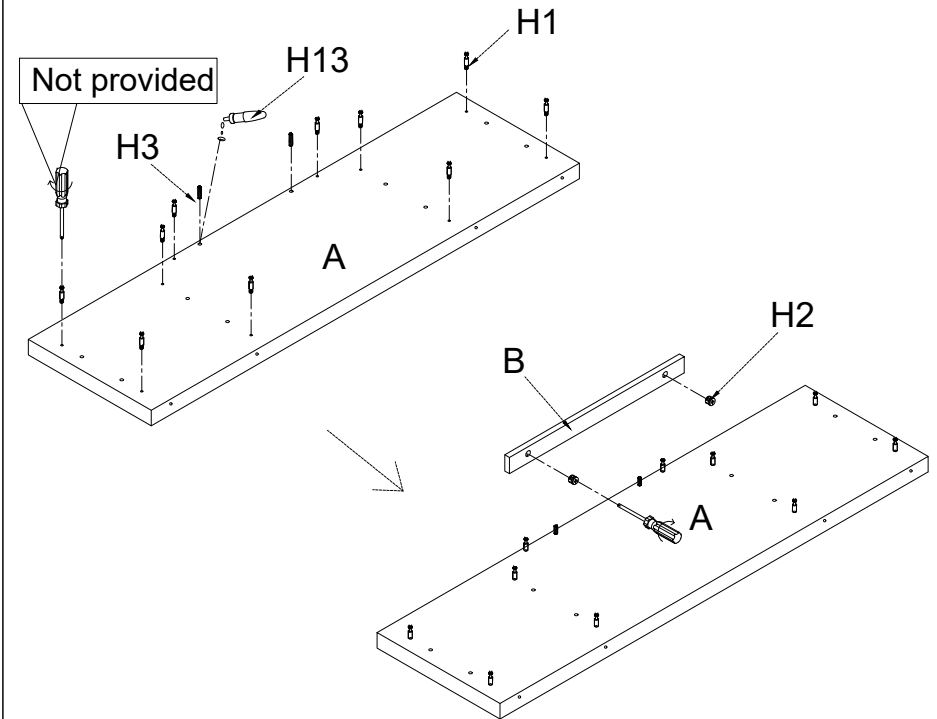

Figure 11
Place Top (A) on a soft smooth surface with the holes facing up. Insert Cam bolt (H1) into the indicated holes in figure 11 and fully tighten using the screwdriver (Not provided). Place a small drop of Glue (H13) and a Short wood dowel (H3) into the remaining holes of Top (A) as shown in figure 11. Align the holes of Top rail (B) with the corresponding Cam bolts (H1) and Short wood dowels (H3) of Top (A) and slide into place as shown in figure 11. Secure Top rail (B) to Top (A) with Cam lock (H2) using screwdriver (Not provided). Note: The holes for the Cam lock (H2) in Top Rail (B) should face the inside as shown in figure 11.